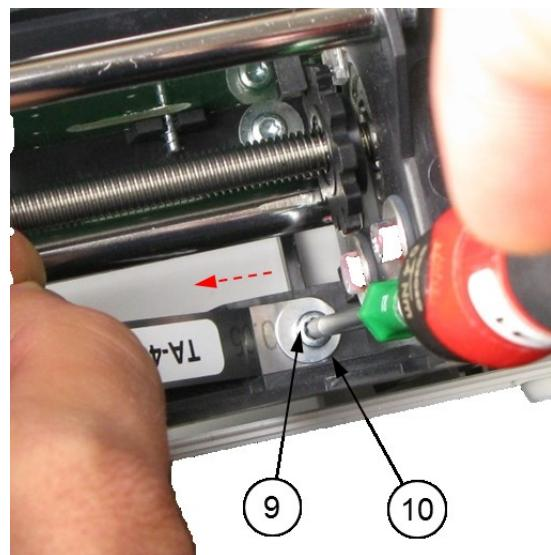

Fig. 49 Unscrewing/screwing drive mechanism
- slowly proceed with unscrewing the 3x10 screw for plastic (9) simultaneously pulling the TA-48 as shown in Fig. 49. Stop the unscrewing process when the TA-48 is completely drawn;
- repeat the above mentioned procedure with the second 3x10 screw for plastic (9).